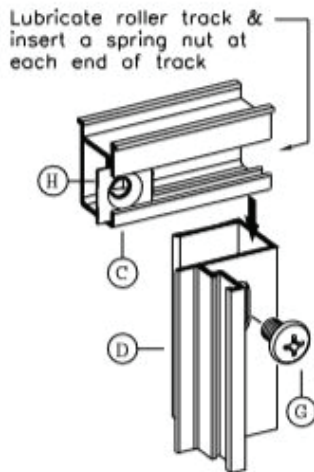

figure 6
Insert a spring nut (H) into each end of the track (see fig. 6 & exploded view - sht 1). Position Top Track (C) on top of jambs and secure track to jambs using two (2) 1/4"-20 Phillips Head installation Screws (G) as shown. Make sure that the track opening is toward the interior of the shower.